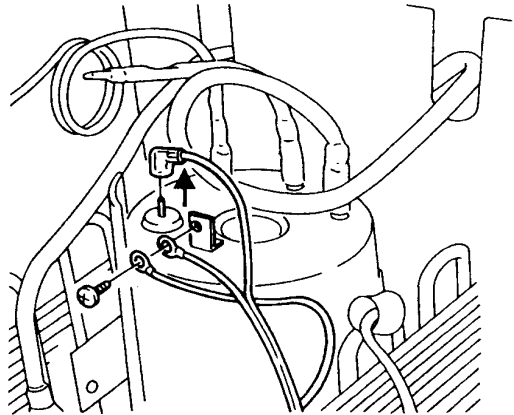

Fig. 8
- 10) Pull out the two motor cords (Blue) and grounding cord (green) from swing motor terminal. (See Fig. 8)